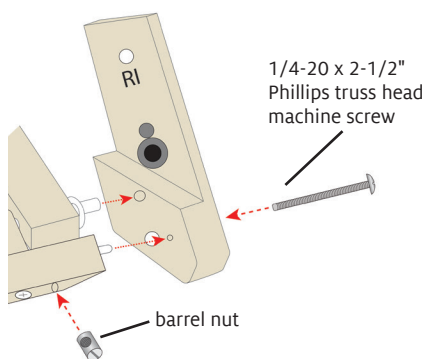

FIGURE 9: INSTALL INSIDE BLOCKS ON TREADLE ASSEMBLY
16. On the inner side of the RI height extender block, you will see two holes that do not go all the way through the block. Fit the metal treadle bar into the larger hole and the pin of the treadle support into the smaller hole, as shown in Figure 9.
17. From the outer side of the RI height extender block, you will see one hole at the bottom. Insert a 1/4-20 x 2-1/2" Phillips truss head machine screw into this hole, then partway into the treadle support (Figure 9). Insert a barrel nut from Step 10 into the hole of the treadle support, holding it in place with a slotted (flat) screwdriver. Fully tighten the 1/4-20 x 2-1/2" Phillips truss head machine screw into the barrel nut.